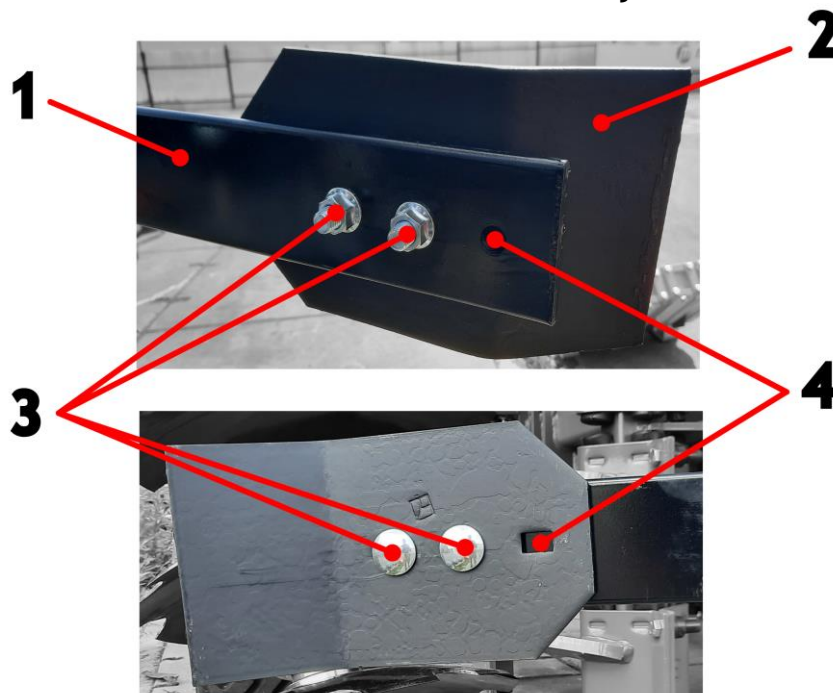

Figure 14 SKAN harrow tooth (1 - harrow, 2 - tooth, 3 - mounting bolts with nuts, 4 - adjustment holes)
- Unscrew the mounting bolts (Fig. 14, item 3)
- Position the tooth in the new setting by sliding it onto the available holes (Fig. 14, item 4)